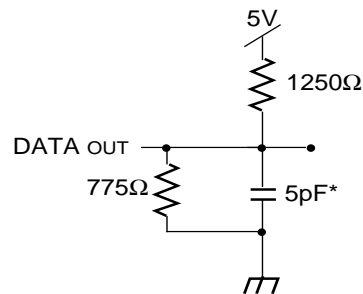

Figure 2. Output Test Load (for tHZ, tLZ, twZ, and tow)
1. Transition is measured ±500mV from Low or High-impedance voltage Output Test Load (Figure 2).
1. Transition is measured $\pm 500mV$ from Low or High-impedance voltage with Output Test Load (Figure 2). This parameter is guaranteed by device characterization but is not production tested.
7. This parameter is determined by device characterization, but is not production tested. Transition is measured +/- 500mV from steady state with the Output Test Load (Figure 2).